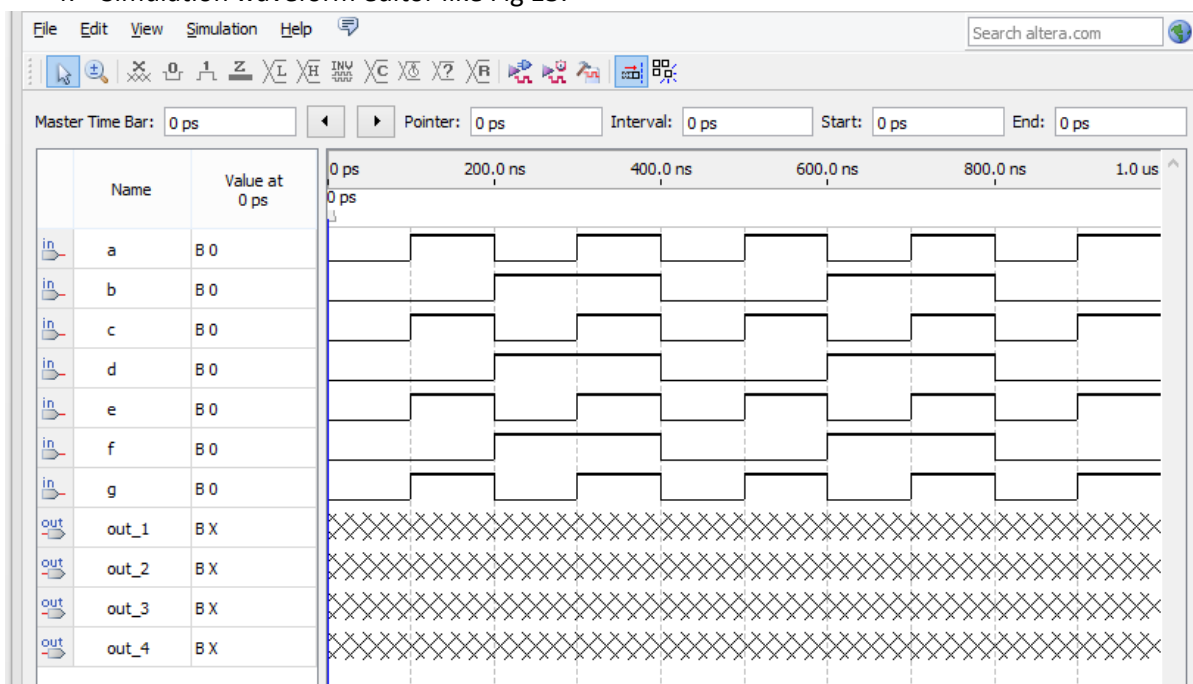

Fig 13.
4. Simulation waveform editor like Fig 13.